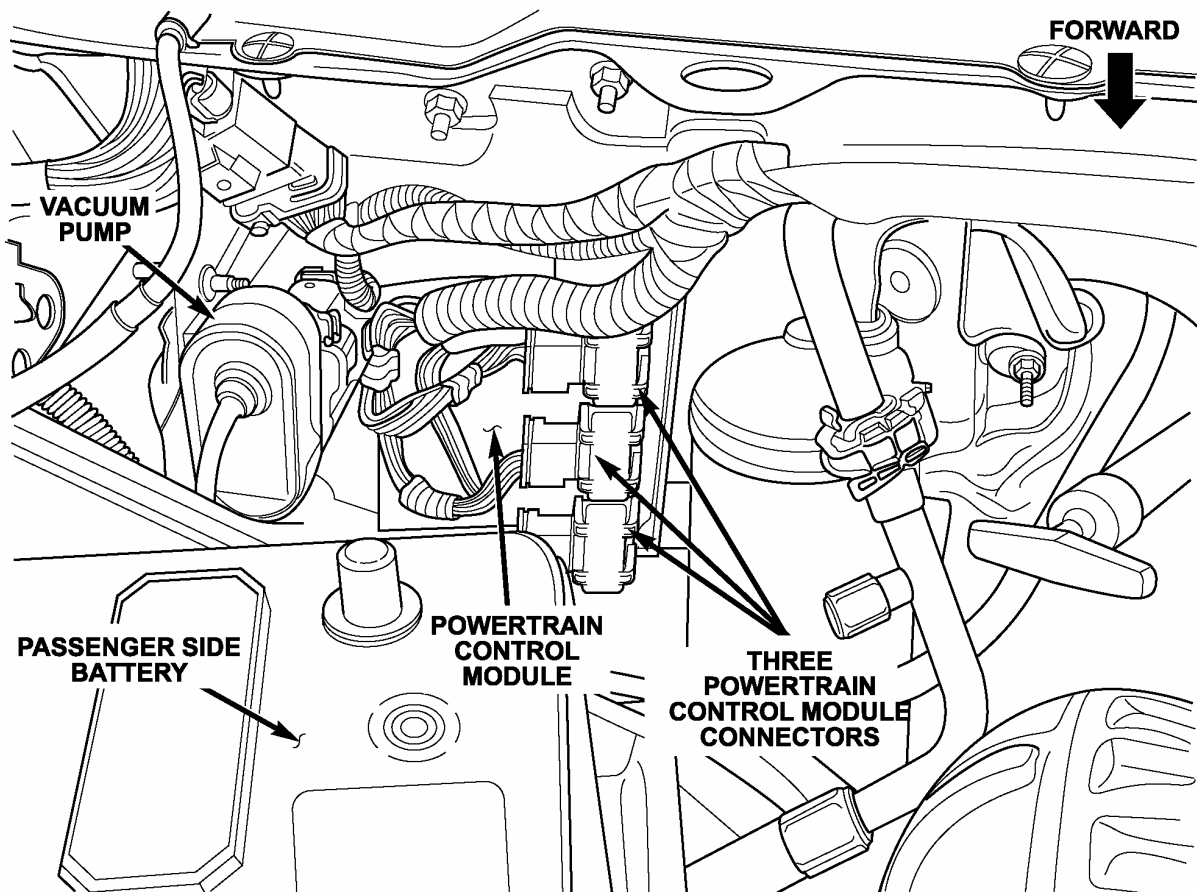

Figure 1
3. Disconnect the three (3) harness connectors from the PCM (Figure 1).